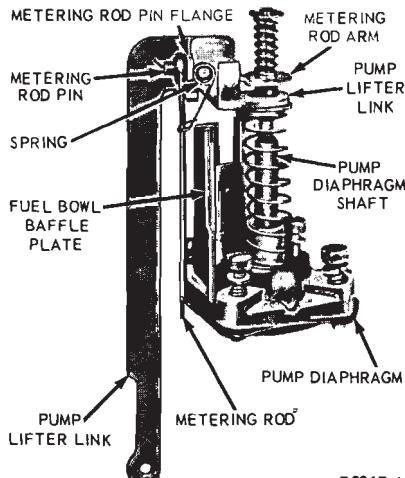

FIG. 7—Accelerating Pump and Lifter Link Assembly
5. Remove the accelerating pump diaphragm housing screws. Lift out the pump diaphragm assembly, the pump lifter link, the metering rod and the fuel bowl baffle plate as a unit (Fig. 7).
3. Install the metering rod on the metering rod arm and place the looped end of the metering rod arm spring on the metering rod as shown in Fig. 7. Align the pump diaphragm with the diaphragm housing; make sure holes are aligned. Install the housing attaching screws to keep the diaphragm and housing aligned.
the pump diaphragm assembly, the pump lifter link, the metering rod and the fuel bowl baffle plate as a unit (Fig. 7).